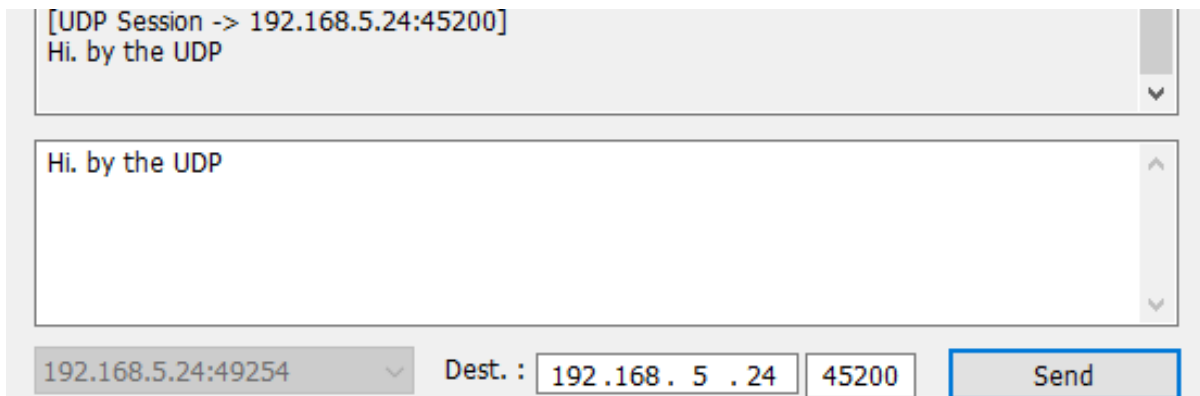

Figure 33: UDP Session Data Transfer
- **UDP Session:** Select the **UDP Session** checkbox → Enter the destination IP and port number → Type a message → Click the **Send** button (see Figure 33)